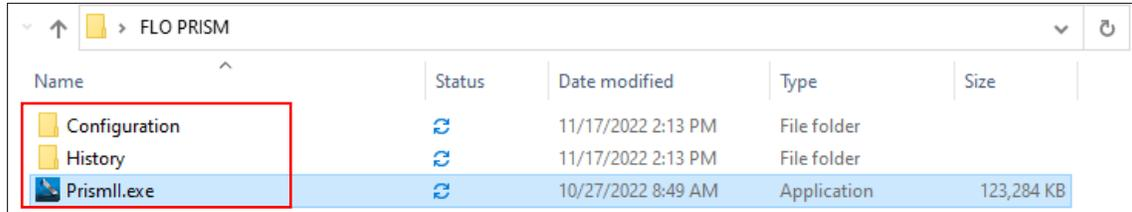

Figure 6: Prism Files Extracted
1. Open the Prismll.exe file, installation will be complete when a “Configuration” folder and “History” folder are created in the same location where you placed Prismll.exe (see figure 6).